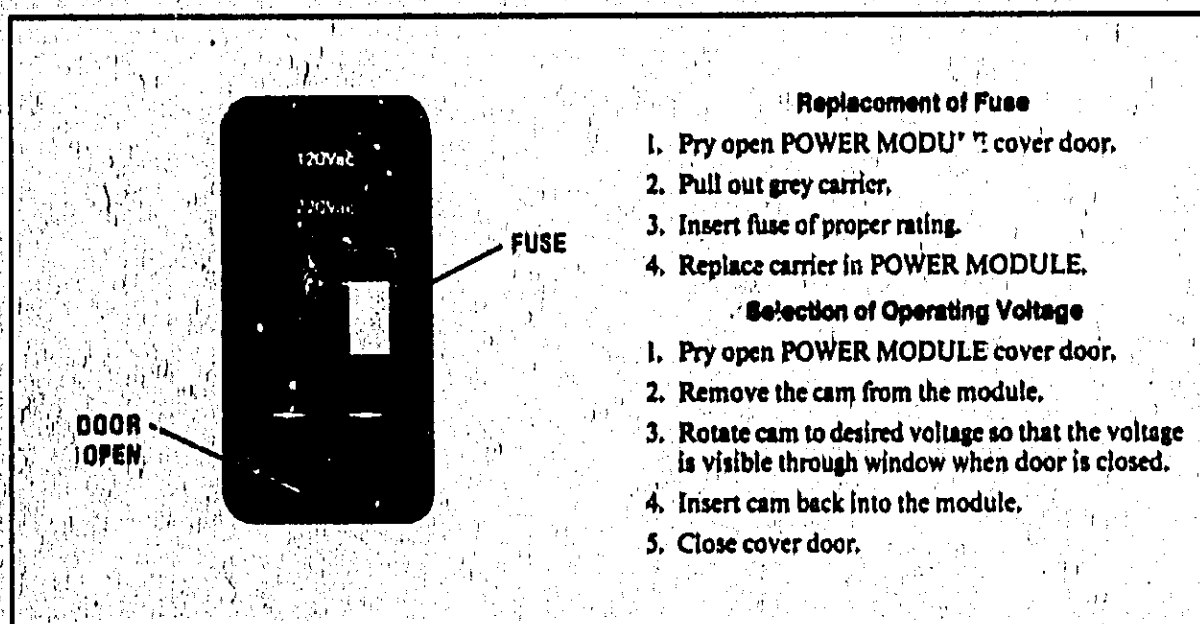

Figure 2-1. Line Voltage Selection with Power Module Rotating Cam (ERRATA)
2. Refer to Figure 2-1. At the instrument's rear panel power line module, pry open the module door to reveal a rotating cam. Do not rotate the cam in the module. Remove the cam from the module, select the required voltage and replace it before power on. Note that the available line voltage must be within $\pm 10\%$ of the line voltage selected on the rotating cam. If it is not, you must use an autotransformer between the ac source and the HP 8349A.
● Page 2-2, Figure 2-1:
Replace Figure 2-1 with the following *Figure 2-1. Line Voltage Selection with Power Module Rotating Cam (ERRATA)*